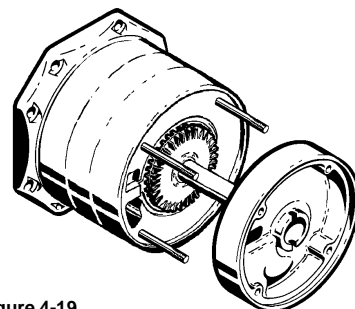

Figure 4-19
- b. Slide the channel ring onto the guide rods with the water channel facing down towards the impeller. The small outlet opening should be on the opposite side from the pump inlet. Refer to Figure 4-19. Push on firmly until the "O"ring fits inside the lip in the previously installed channel ring.